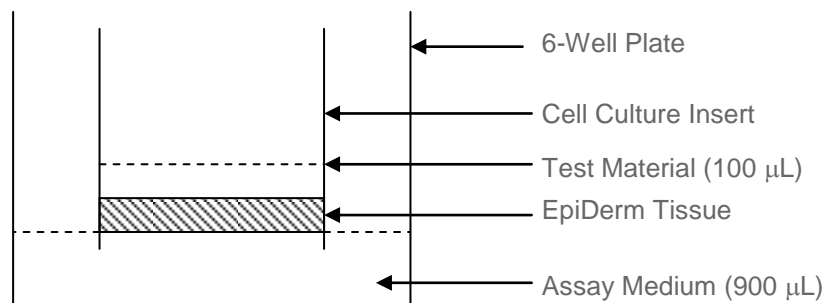

Figure 1: Dosing Configuration
d) **Apply dose (liquids):** Add 100 μ l of test material into the cell culture insert atop the EpiDerm sample. Do not add the test material to the assay medium in the well. Negative controls (no dose, or diluent for diluted samples) should be treated in an identical manner to the dosed inserts. See Figure 1.